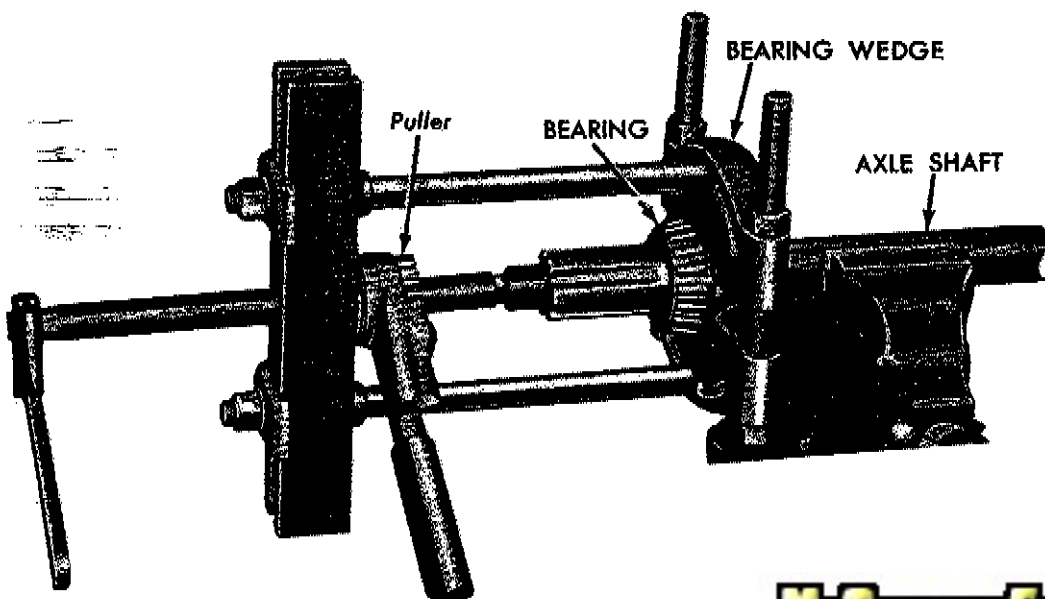
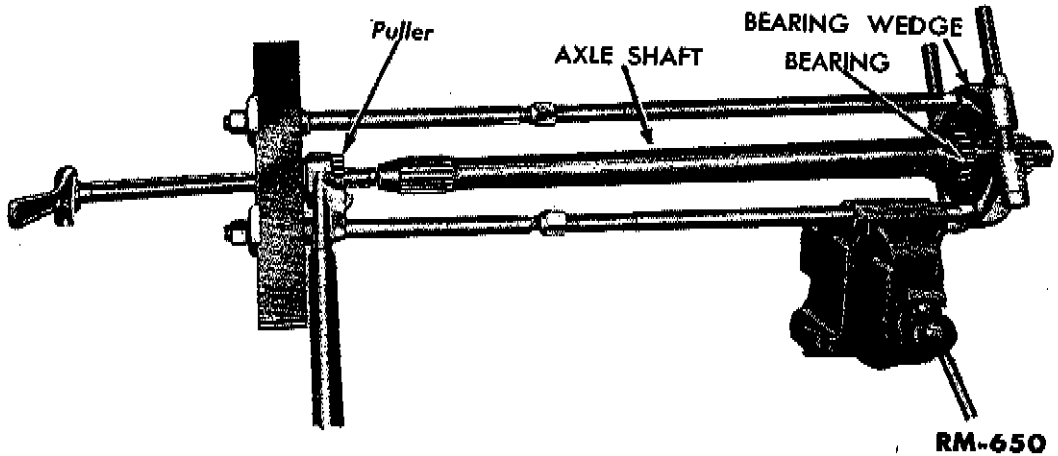

Fig. 42—Removing Axle Shaft
Fig. 43—Installing Axle Shaft Bearing
Place the pinion assembly in a vise equipped with brass jaws. Bend the ears of the lock washer off the pinion bearing lock nut. Using two thin $2\frac{1}{8}$ inch open-end wrenches, remove the pinion sleeve, thrust washer, and roller bearing from the pinion (fig. 42).
(1) **AXLE SHAFT BEARING REPLACEMENT.** Remove the axle shaft bearing with a puller that applies pressure on the inner race (fig. 42). To install the bearing, press it on the shaft, making sure all pressure is applied to the inner race (fig. 43).